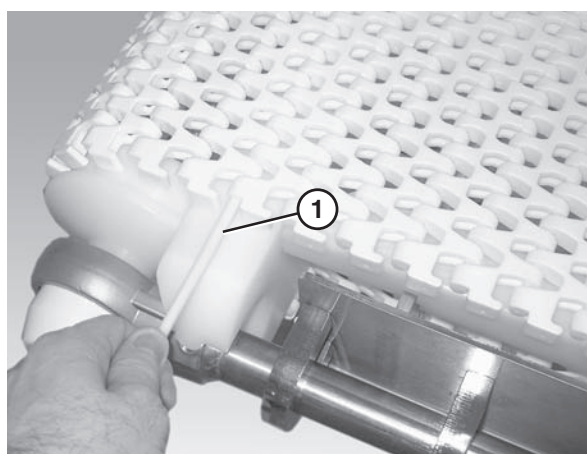

Figure 34
- Insert the belt rod (**Figure 34, item 1**).